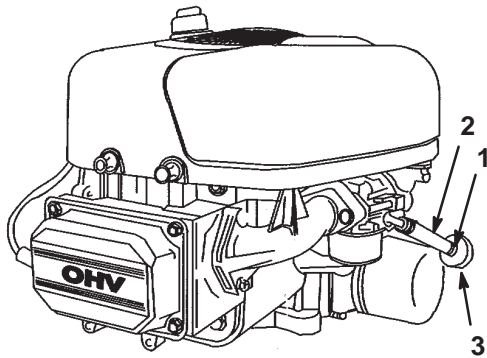

Figure 28
7. Squeeze the ends of the hose clamp together and slide it up the fuel line toward the fuel tank (Fig. 28).
8. Pull the fuel line off of the filter (Fig. 28) and allow the gasoline to drain into a gas can or drain pan.
The best time to replace the fuel filter (Fig. 28) is when the fuel tank is empty. Never install a dirty filter if it is removed from the fuel line.
6. Squeeze the ends of the hose clamps together and slide them away from the filter (Fig. 28).